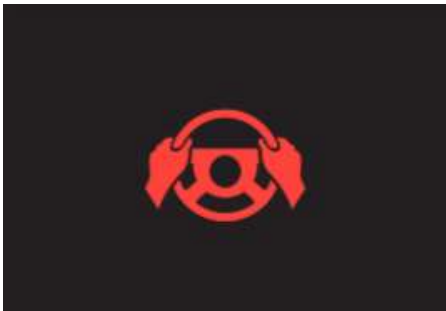

Figure 1. Take over steering warning light.
- Emergency Assist: fault. You can continue driving (in combination with the red take over steering prompt (see Figure 1)).